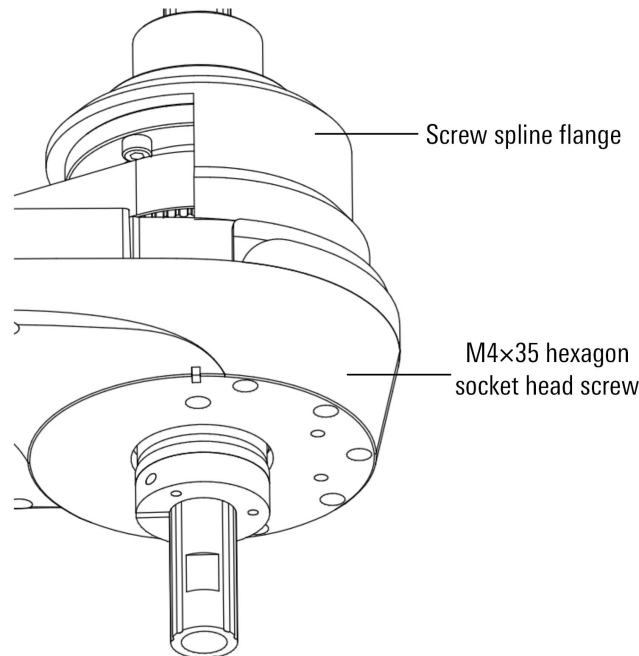

Figure 8- 9 Schematic diagram of disassembling screw spline flange
Step7. Remove the 3-axis timing belt, install a new timing belt, and re-fix the screw flange on the forearm, as shown in Figure 8- 10.